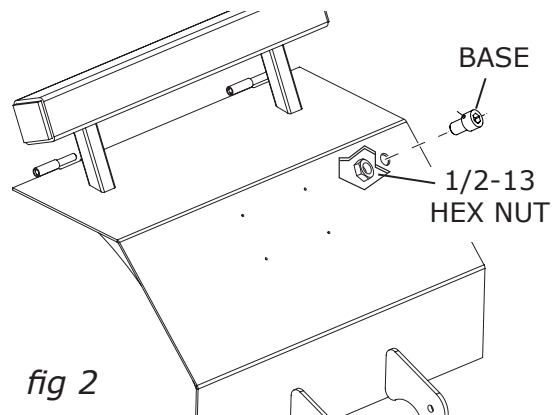

fig 2
3. Insert thermometer base mount (P/N 90480) in drilled hole(s). Secure the base with 1/2-13 stainless steel hex nut (P/N 1213JHNSS). See fig 2.